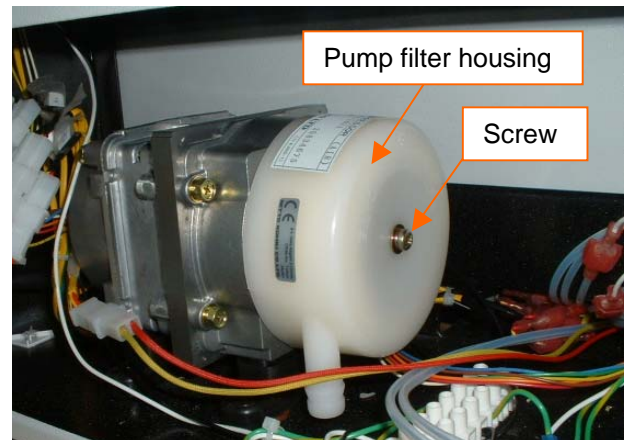

Figure 21
- i. Open the cover on the back of the TF 2500. (Figure 21)